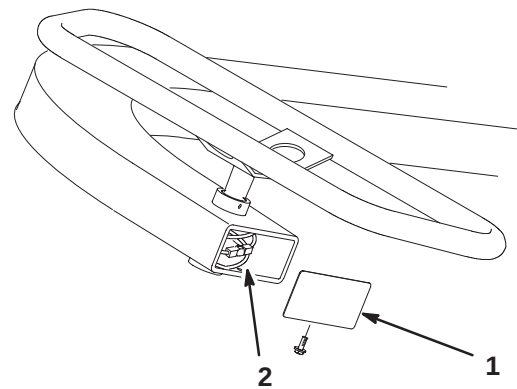

Figure 54
2. If all threads on the cable end have been used, replace the cables. If necessary, service the pulley and steering cable under the steering wheel by removing the cover on the end of the steering column (Fig. 54).